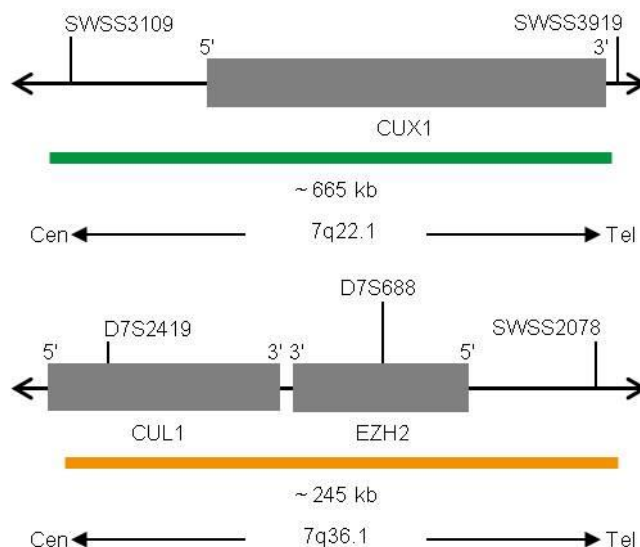

Fig. 1: Top: SPEC CUX1 Probe map (not to scale); Bottom: SPEC EZH2 Probe map (not to scale)
- ZyGreen (excitation 503 nm/emission 528 nm) labeled polynucleotides (~10.0 ng/μl), which target sequences mapping in 7q22.1* (chr7:101,270,255-101,934,924) harboring the CUX1 gene region (see Fig. 1).
- ZyOrange (excitation 547 nm/emission 572 nm) labeled polynucleotides (~4.5 ng/μl), which target sequences mapping in 7q36.1* (chr7:148,402,839-148,647,927) harboring the EZH2 gene region (see Fig. 1).